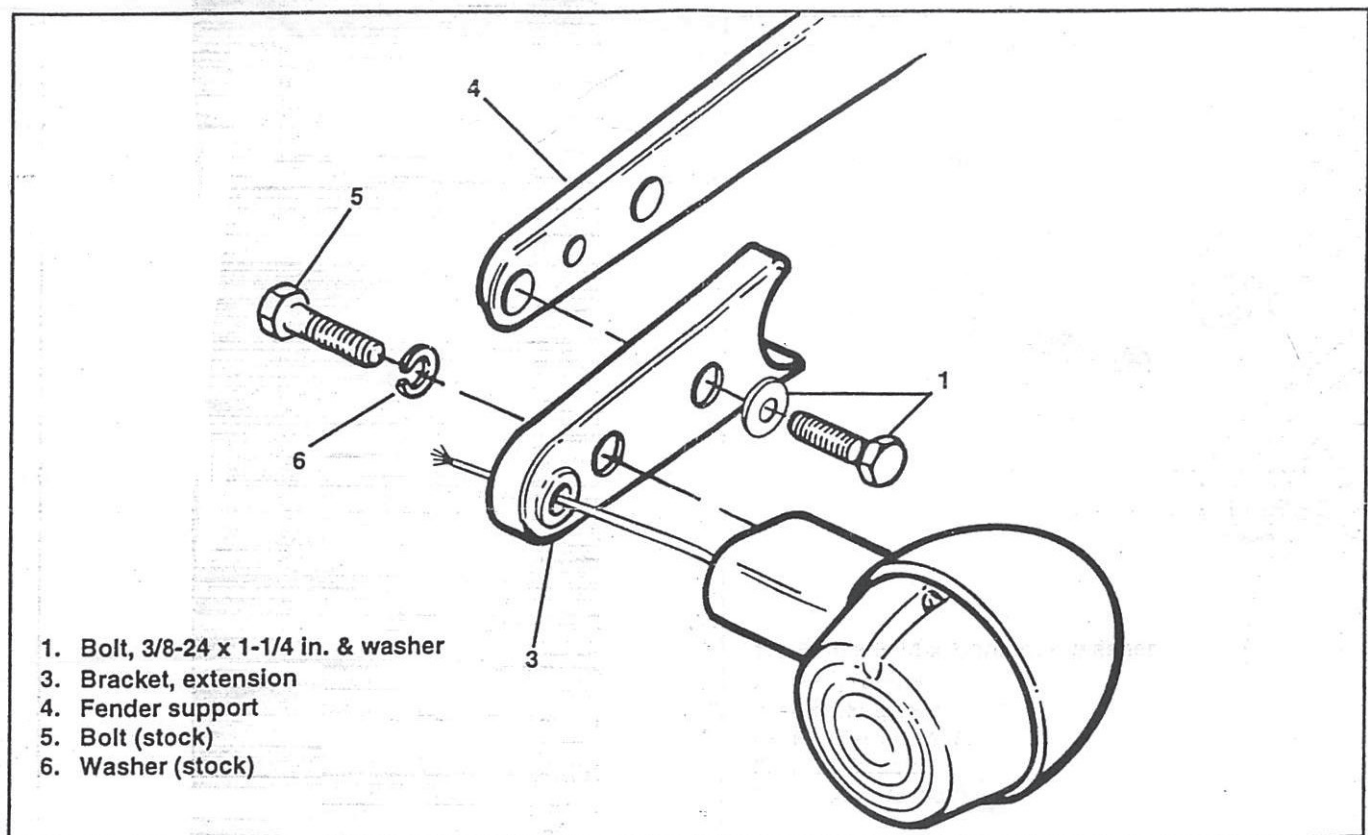

Figure 1. Relocating Directional Light
2. See Figure 1. Hold the extension bracket (3) and directional light in position and tuck wiring into fender support between bosses and lower edge.
3. Install bolt (1) and washer from kit to secure bracket extension to fender support.